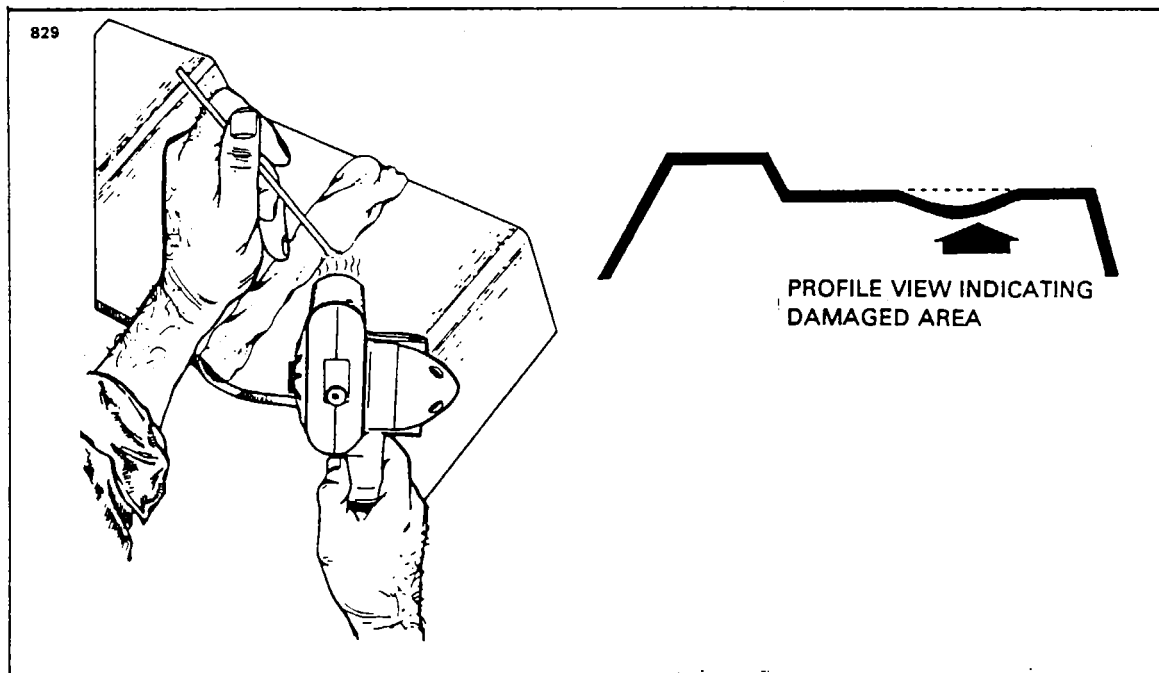

Figure 4-10. Repair of Impacted Damage
1. Stress lines produce a whitened appearance in a localized area and generally emanate from the severe bending or impacting of the material. (Refer to Figure 4-10.)